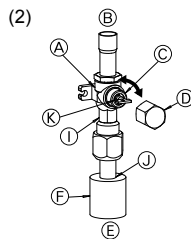

Fig. 4-7
- Gas side of stop valve (Fig. 4-7)